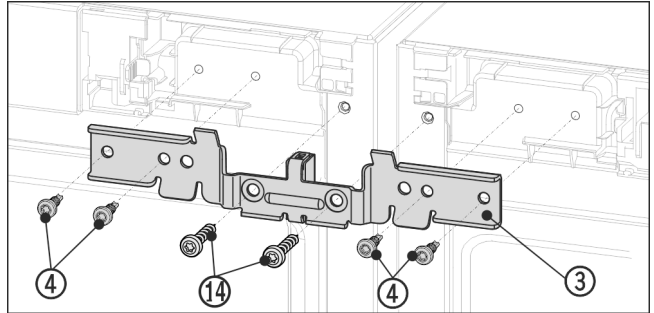

Fig. 13 Example illustration
- ▶ Slide the bracket Fig. 13 (3) with the spacer between the appliances onto the pins. Loosely screw on the bracket with four screws Fig. 13 (4) and the previously unscrewed grounding screws Fig. 13 (14) alternately on the right and left.